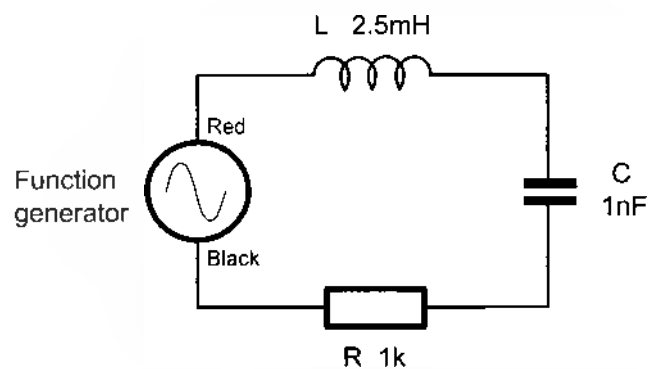

Figure 3
24. Wire the circuit of Figure 3.